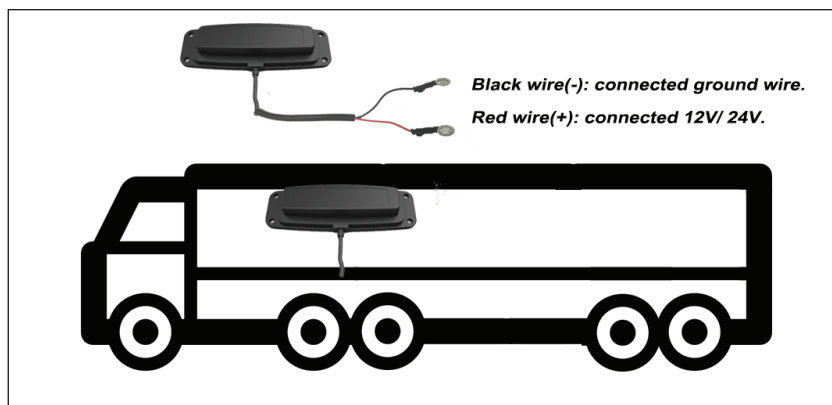

Figure 4
1. You can mount the repeater anywhere outside of the vehicle as it is weather-resistant (Figure 4).